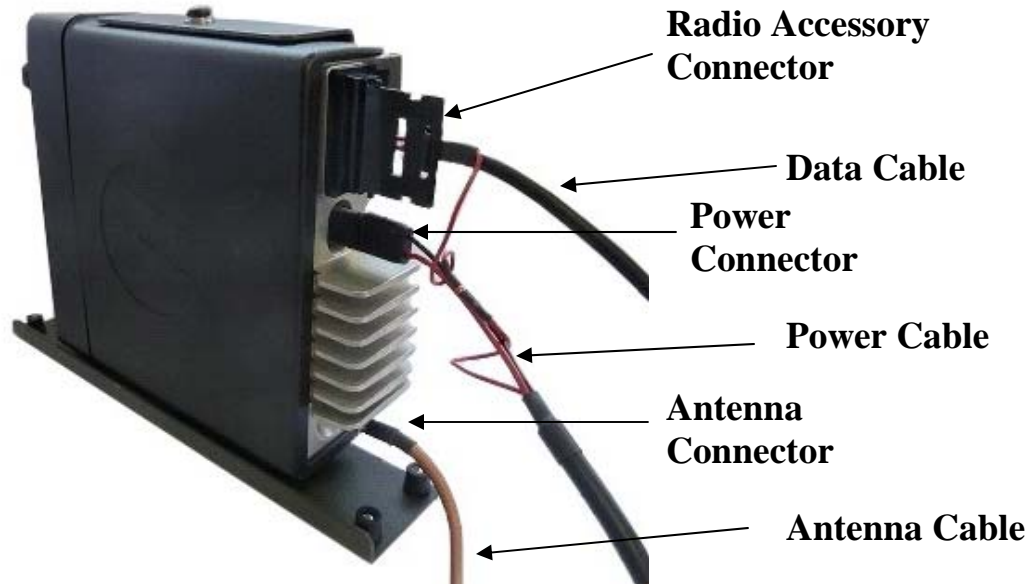

Figure 21-42 MotoTrbo Radio Cable Connections
2. Connect the USB connector of the USB data cable (FKN8644A) to one of the USB host ports on the ACE3600 CPU module. Connect the other side of the cable (26-pin connector) to the Accessory connector on the radio. (See Figure 21-42.)